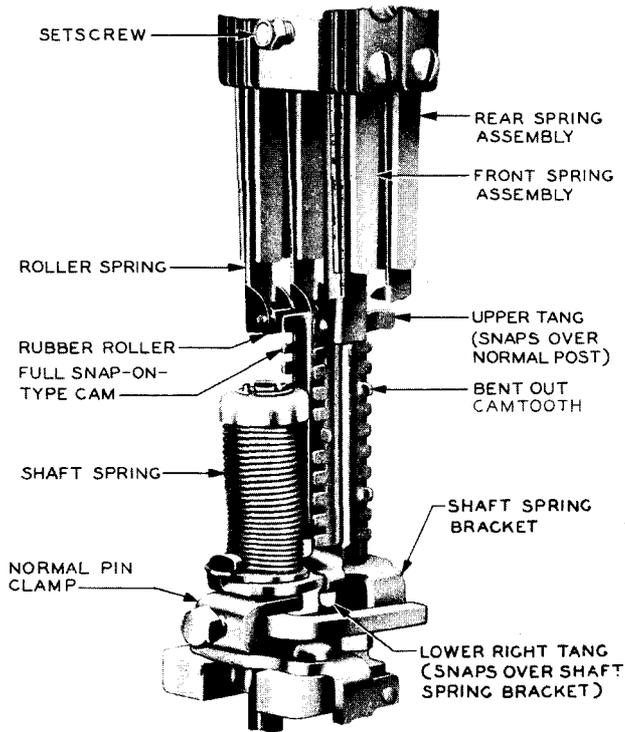
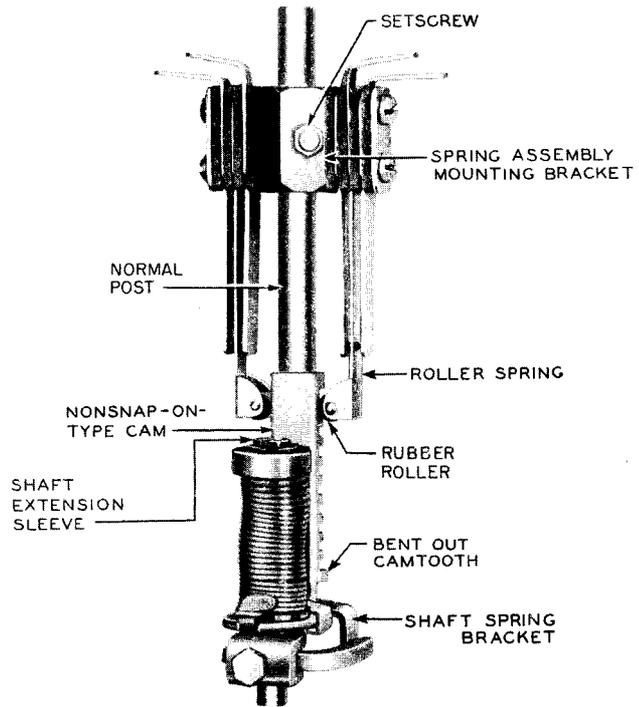
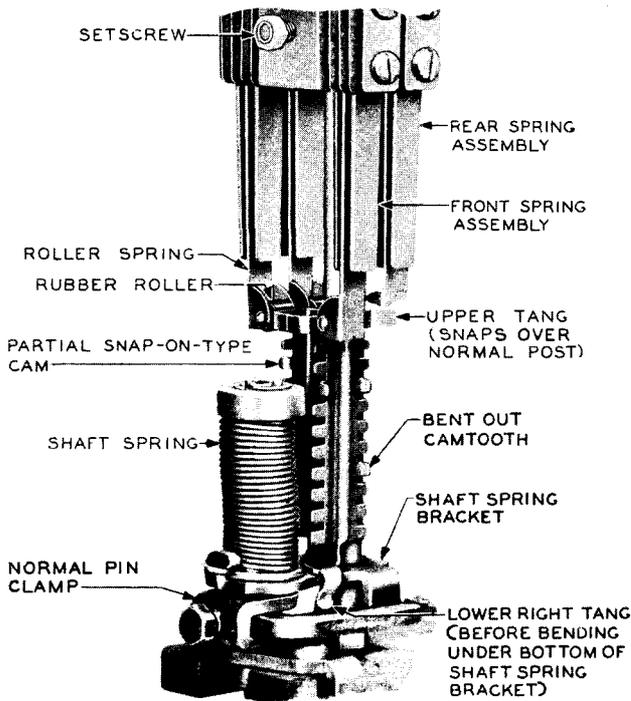

Fig. 9 - Normal Post Spring Assembly Having Rubber Rollers Operated by Full Snap-On-Type Cam
Fig. 11 - Normal Post Spring Assembly Having Rubber Rollers Operated by Nonsnap-On-Type Cam (single cam illustrated)
Fig. 10 - Normal Post Spring Assembly Having Rubber Rollers Operated by Partial Snap-On-Type Cam
Normal Post Spring Assembly With Cam per Fig. 9, 10, 11, or 12
- (1) To replace the normal post spring assembly on a switch equipped with a helical shaft spring assembly, it is necessary to replace the shaft spring bracket, normal pin, and normal post spring assembly, and to add a normal post cam in accordance with Fig. 4. Full-, partial-, or nonsnap-on-type cams shown in Fig. 9 to 11 may be used.
- (2) Tag and disconnect the leads to the normal post spring assembly. Loosen the normal post spring assembly clamping screw with the 3-inch C screwdriver or the 555A wrench. Lift the spring assembly from the top of the normal post.
- (4) If the camteeth are not bent out to operate the normal post springs at the proper levels, bend out the camteeth corresponding to the levels at which the springs are to operate as covered in 3.14(5).
- (5) Then mount the normal post cam as covered in 3.14(7) if it is a full snap-on-type cam per Fig. 9; as covered in 3.14(8) if it is a partial snap-on-type cam per Fig. 10; or as covered in 3.14(9) if it is a nonsnap-on-type cam per Fig. 11 and 12.
- (6) Mount the new spring assembly on the normal post, placing the assembly so that the springs operate properly. Tighten the assembly mounting screws securely. Connect the leads to the spring terminals. Check all requirements on the normal post spring assembly and associated parts as covered in Section 030-705-703.
sembly and to add a normal post cam and normal post spring assembly in accordance with Fig. 4. Full-, partial-, or nonsnap-on-type cams shown in Fig. 9 to 11 may be used.
- (2) Tag and disconnect the leads connected to the normal post springs. Remove the assembly as covered in 3.10.
- (3) Remove the cup spring assembly, the shaft spring bracket, the normal pin, and the normal pin clamp as described in Section 030-705-802.
- (4) If the switch is equipped with a normal post collar, remove and discard it.
- (5) Mount the shaft extension sleeve, normal pin clamp, normal pin, shaft spring bracket, and shaft spring in accordance with Section 030-705-802.
- (6) If the camteeth are not bent out to operate the normal post springs at the proper levels, bend out the camteeth corresponding to the levels at which the springs are to operate, as covered in 3.14(5).
- (7) Then mount the normal post cam as covered in 3.14(7) if it is a full snap-on-type cam per Fig. 9; as covered in 3.14(8) if it is a partial snap-on-type cam per Fig. 10; or as covered in 3.14(9) if it is a nonsnap-on-type cam per Fig. 11 and 12.
(1) To replace a normal post cam, remove the cam as covered in (2) if it is a full snap-on-type cam per Fig. 9; as covered in (3) if it is a partial snap-on-type cam per Fig. 10; or as covered in (4) if it is a nonsnap-on-type cam per Fig. 11 and 12. If the proper teeth on the replacing cam have not been bent out, bend out as covered in (5) the teeth corresponding to the levels at which the normal post springs are to be operated. Mount the replacing cam as covered in (7) if it is a full snap-on-type cam per Fig. 9; as covered in (8) if it is a partial snap-on-type cam per Fig. 10; or as covered in (9) if it is a nonsnap-on-type cam per Fig. 11 and 12.
(2) Full Snap-On-Type Cam per Fig. 9
(3) Partial Snap-On-Type Cam per Fig. 10:
(4) Nonsnap-On-Type Cam per Fig. 11 and 12
- (6) **General:** If the proper teeth have not been bent out, bend out as covered in (5) teeth corresponding to the levels at which the normal post springs are to be operated. Then proceed as covered in (7), (8), or (9).
(7) Full Snap-On-Type Cam per Fig. 9
- (b) If the cam does not slide freely on the normal post, remove the cam as covered in (2) (b) and bend outward with the long-nose pliers the part causing the interference. Remount the cam as covered in (a).
- (d) Check the vertical play between the cam and the shaft spring bracket as covered in Section 030-705-703. If the requirement is not met, remove the cam as covered in (2) and bend outward the lower right tang slightly with the long-nose pliers.
(8) Partial Snap-On-Type Cam per Fig. 10:
(9) Nonsnap-On-Type Cam per Fig. 11 and 12